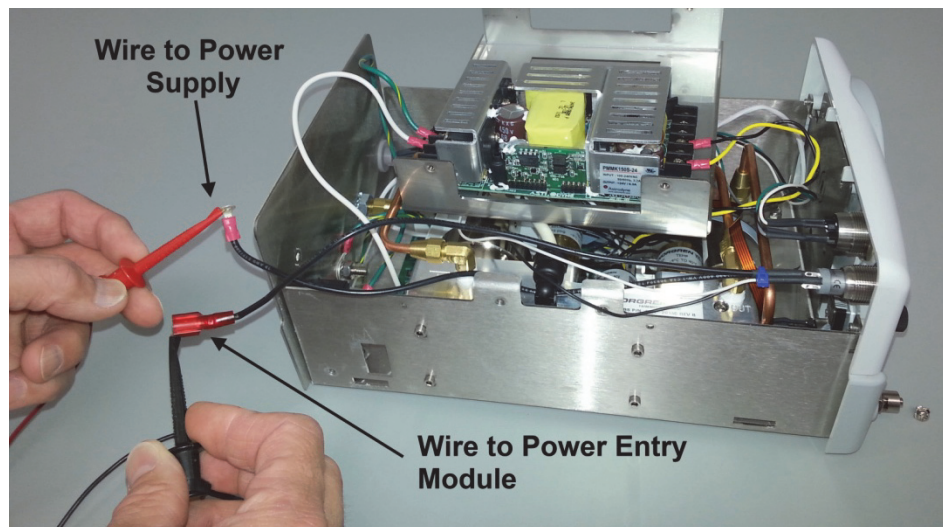

Figure 5
10. Connect a DMM between the two black 115/230 VAC wires. See figure 5. Depress the Power Switch on the front of the unit. Verify that the switch latches in the ON position. An acceptable reading is less than 25 ohms. If you get a reading greater than 25 ohms replace the Power Switch.
- c. Connect a DMM between the two wires. See figure 5 in *“Troubleshooting, Unit will not Power On”* Section.